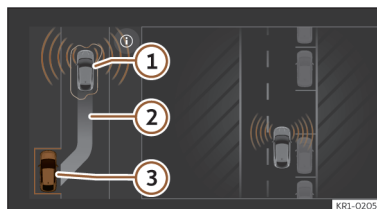
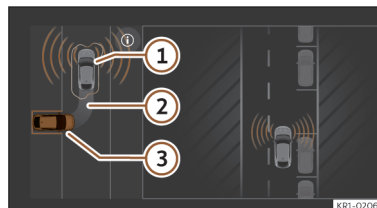

Fig. 139 On the infotainment system display: parallel parking position.
Fig. 140 On the infotainment system display: parking bay parking position.
>>> Fig. 139, >>> Fig. 140
- ① Own vehicle.
- ② Indication showing the proposed parking manoeuvre.
- ③ Parking space detected.
• Look at the display on the infotainment system's screen to see if the space has been detected as "appropriate" and if the correct position for parking has been reached >>> Fig. 139, >>> Fig. 140. Stop the vehicle and follow the instructions shown on the infotainment screen.